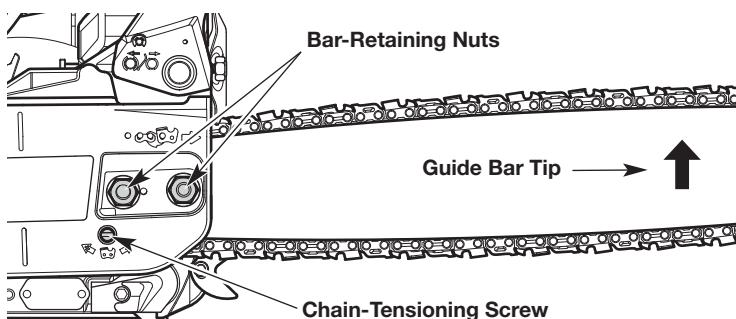

Fig. 26
2. Use the multi-purpose tool or a 1/2 inch (13 mm) wrench to slightly loosen the bar-retaining nuts (Fig. 26).
3. Hold the guide bar tip up and use a flat-head screwdriver to turn the chain-tensioning screw (Fig. 26).